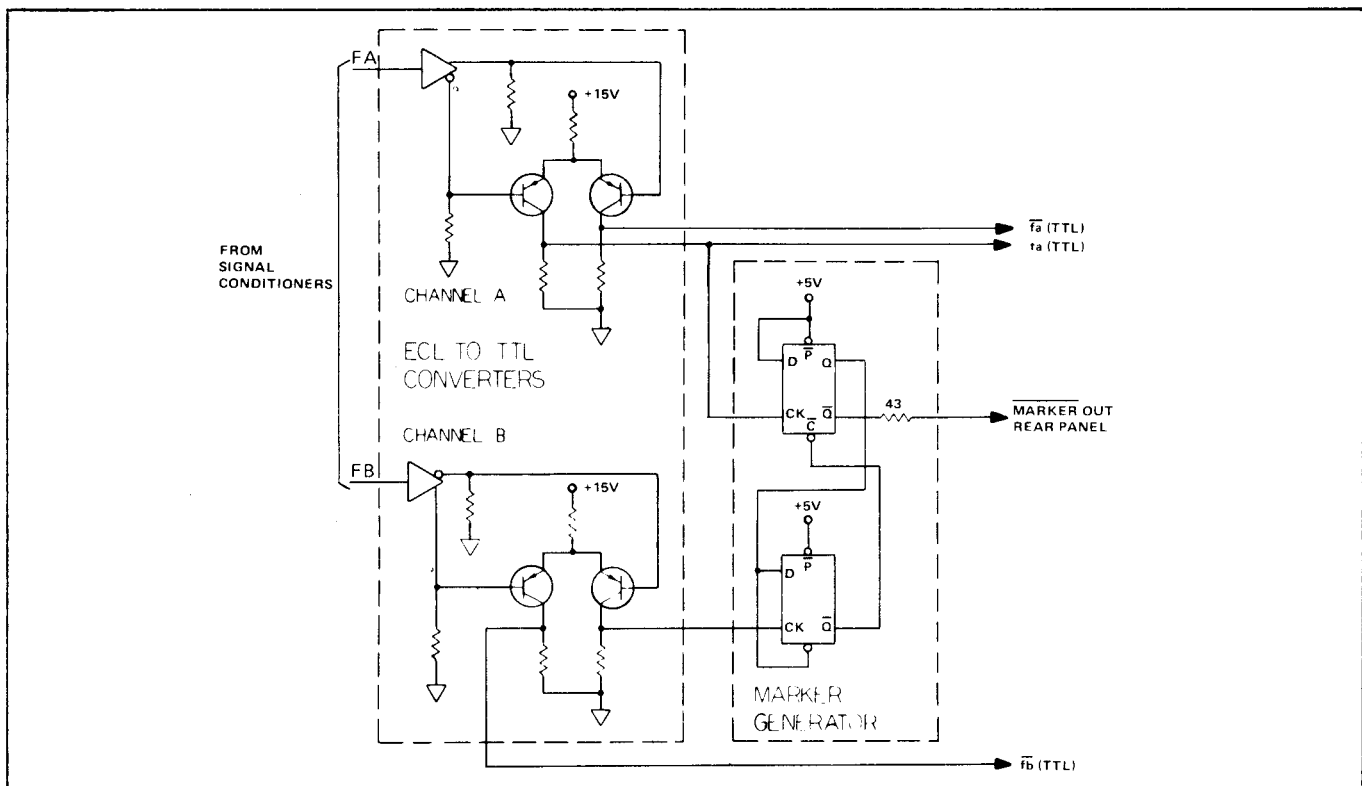

Figure 1.34 - Marker Out Simplified Diagram
1.4.18.1 The MARKER OUT signal on the rear panel is derived from the fa and fb signal from the signal conditioners. Signals fa and fb are translated from the ECL logic levels to TTL logic levels in differentially paired transistor circuits. See figure 1.34. The TTL signals are used to clock D-type flip-flops. The first flip-flop is clocked by fa and a high logic level is clocked through the Q-output to the second flip-flop D-input. The  $\overline{Q}$ -output is supplied to the rear panel MARKER OUT connector. The second flip-flop is clocked by fb and the output used to reset the first flip-flop and set the  $\overline{MARKER OUT}$  signal high again.